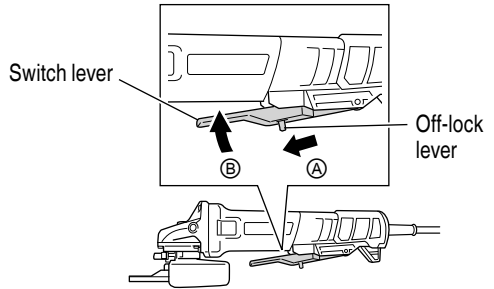

Fig. 3
2. Turn the grinder "on". (Fig. 3)
To switch on, slide the off-lock lever in the direction of Ⓐ and press the switch lever (2 locations) in the direction of Ⓑ as shown in Fig. 3. Release the switch lever to switch off.